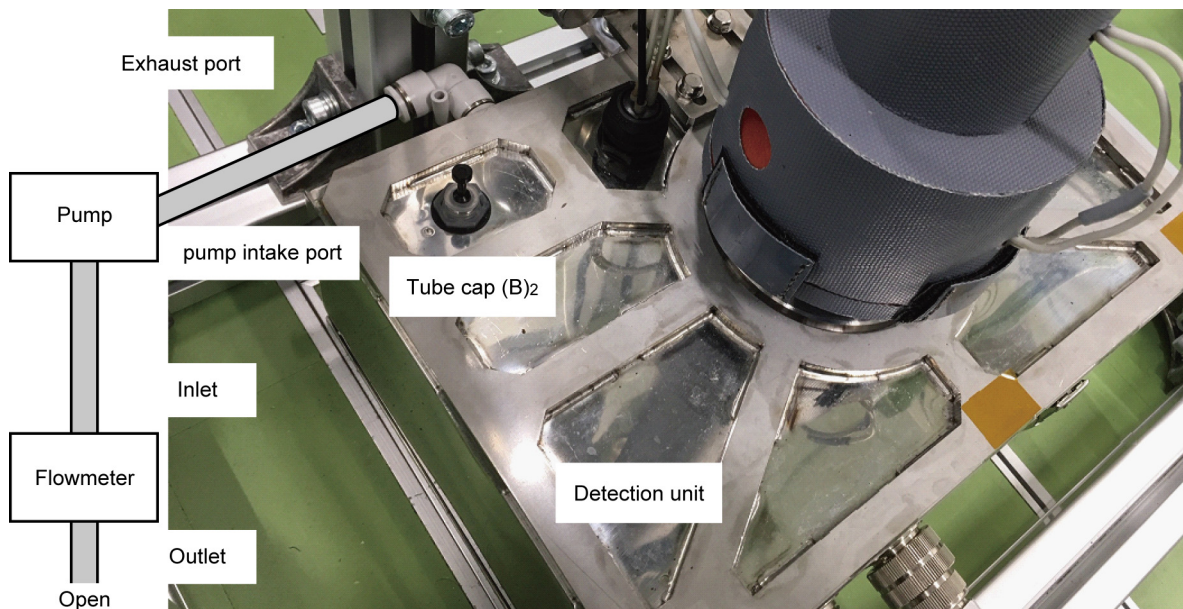

Fig. 7-10 Connect the tube cap (B)₂ to the joint
11. Pull out the instrument air tube connected to the instrument air inlet at the bottom of the detection unit. Insert the tube cap (B)2 into the joint and plug it as shown in Fig. 7-10. Insert until the tube cap will go no further.
11. Pull out the tube cap (B)2 shown in Fig. 7-10. Connect the instrument air tube to the instrument air inlet at the bottom of the detection unit.